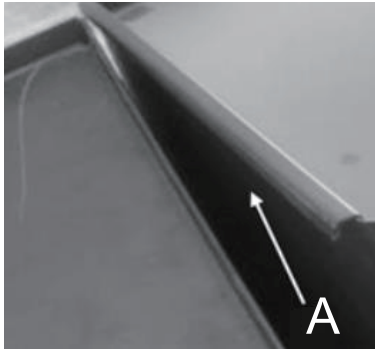

Fig.1
- c. Locate and identify the lipped edge (A) on the 14.5 in. end locker. (Fig. 1).